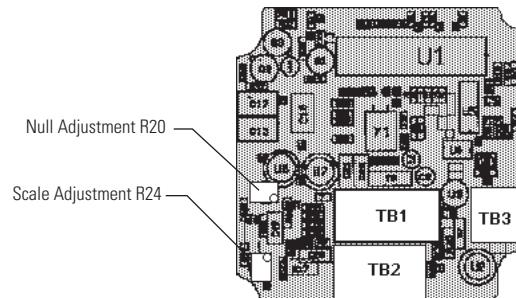

Figure 9-1
2. Note the location of terminal board TB1 on the AOM (Refer to Figure 9-1). Connect a DVM (digital voltmeter) across pins A and B of terminal board TB1 to monitor the displacement signal. Apply power to the system